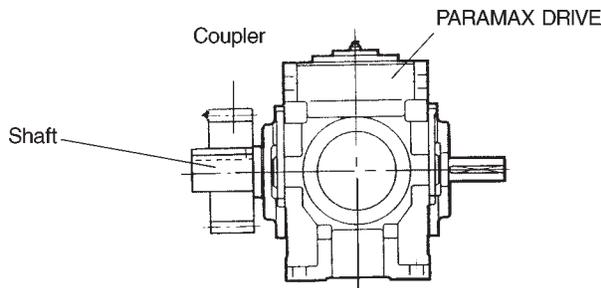
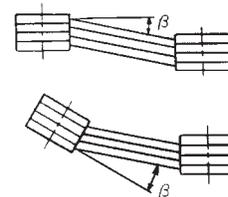

Fig. 4
Fig. 5
(2) Use of chain, sprocket, or gear
- Locate the sprocket or gear as close to PARAMAX as possible so that the point of application of the load will be closer to the PARAMAX vertical centerline (Fig. 4).
(3) Use of V belt
- Accuracy of parallelism (β) between two pulleys shall be less than 20° (Fig. 5).